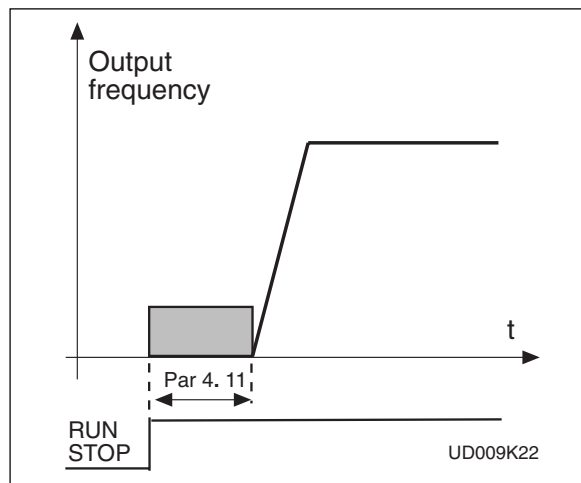

Figure 6-16 DC-braking time at start
- >0** DC-brake is activated when the start command is given and this parameter defines the time before the brake is released. After the brake is released, the output frequency increases according to the set start function parameter 4.6 and acceleration parameters (1. 3, 4. 1 or 4.2, 4.3), see figure 6-16.